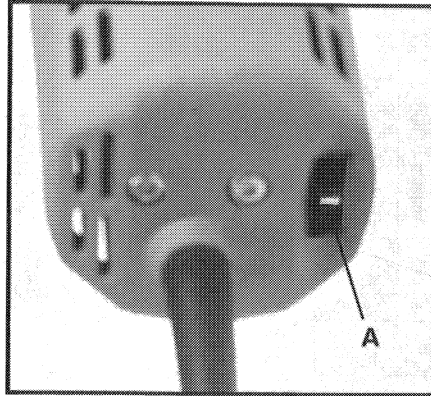

Fig. 2
Speed is adjusted by turning the thumbwheel (A) Fig. 2. Thumbwheel position #1 provides the slowest operating speed (275 RPM) and position #6 the fastest (900 RPM). Speed may be changed while motor is running or while it is stopped.